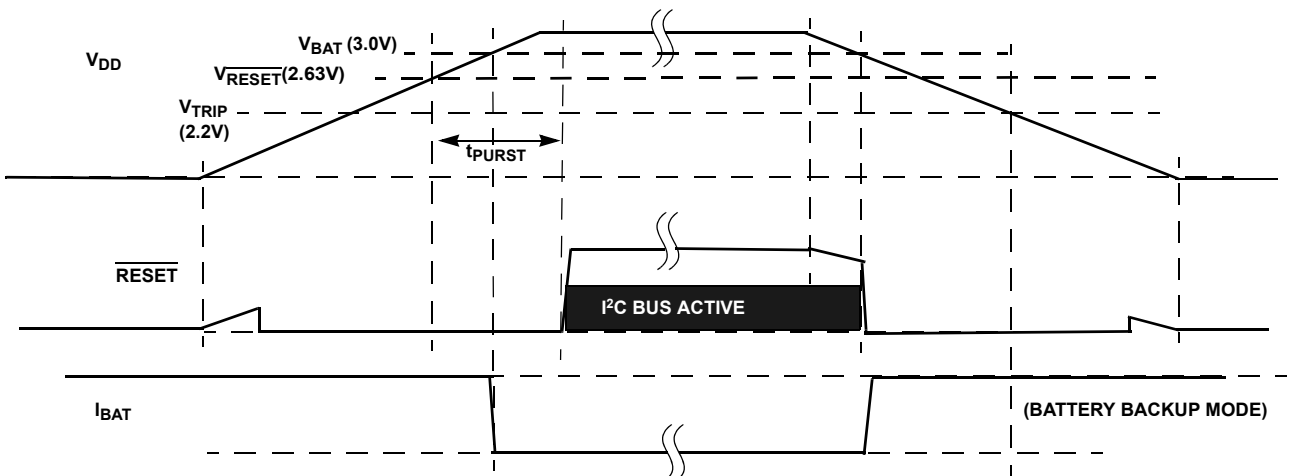

FIGURE 30. RESET OPERATION IN MODE D
- Mode D - In this mode, the selection bits indicate switchover to battery backup at V_{DD}<V_{BAT}, and no I²C communications in battery backup. This mode is unique in that there is I²C communication as long as VDD is higher than V_{RESET} or V_{BAT}, whichever is greater. This mode is the safest for guaranteeing I²C communications only when there is a Valid V_{DD} (see Figure 30).